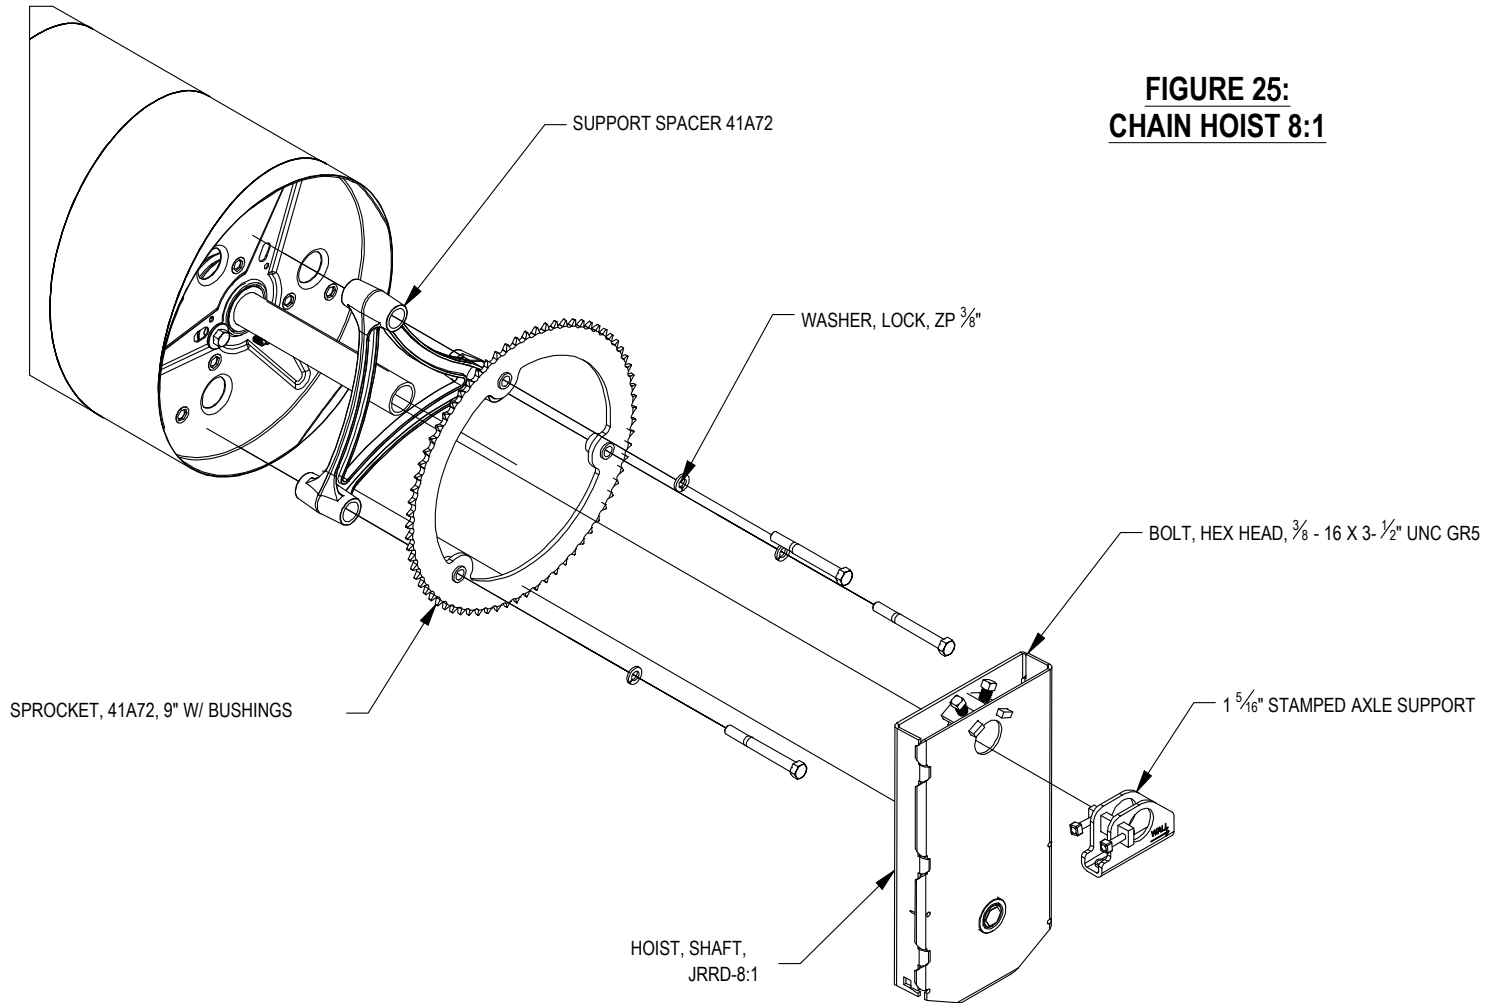

FIGURE 25:
- ▶ Attach Support Spacer, and Sprocket to Drum using (3) $\frac{3}{8}$ -16 x 3- $\frac{1}{2}$ " hex bolt and $\frac{3}{8}$ " lock washers
- ▶ Tighten $\frac{3}{8}$ " - 16 square head set screws when in place. See Figure 25.